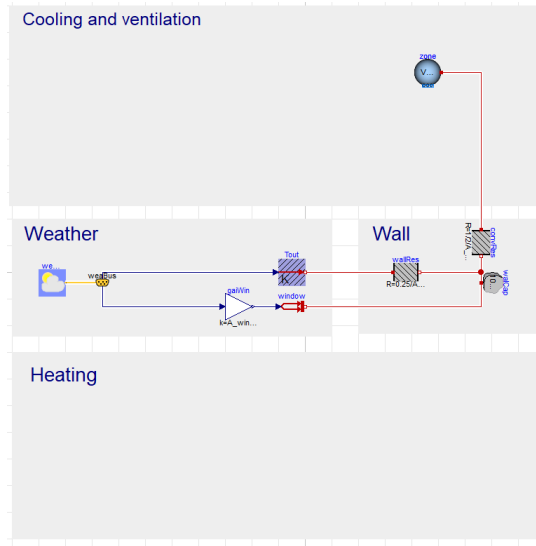

Figure 4: Simple house model with a wall, a window, and an air model.
**Connection instructions** The `MixingVolume` *Medium* parameter contains information about the type of fluid and its properties that should be modelled by the `MixingVolume`. Set 4 its value to *MediumAir*, which is declared in the template. For the nominal mass flow rate you may assume a value of  $1\text{ kg/s}$ . You will have to change this value once you add a ventilation system to the model (part 6). Finally, set the *energyDynamics* of the `MixingVolume`, which can be found in the *Dynamics* tab of the model parameter window, to *FixedInitial*. Your model should now look like Figure 4.